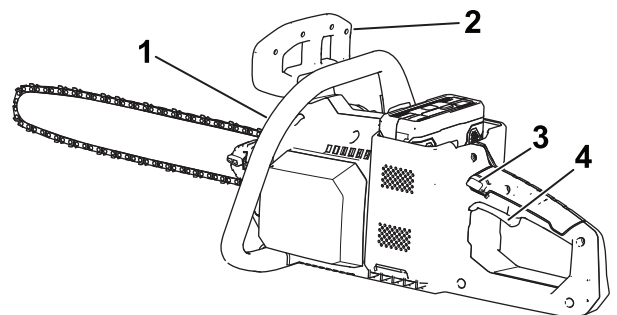

Figure 9
6. With 1 hand on the front handle and the other on the rear handle, press the trigger lock, then squeeze the trigger (Figure 9).